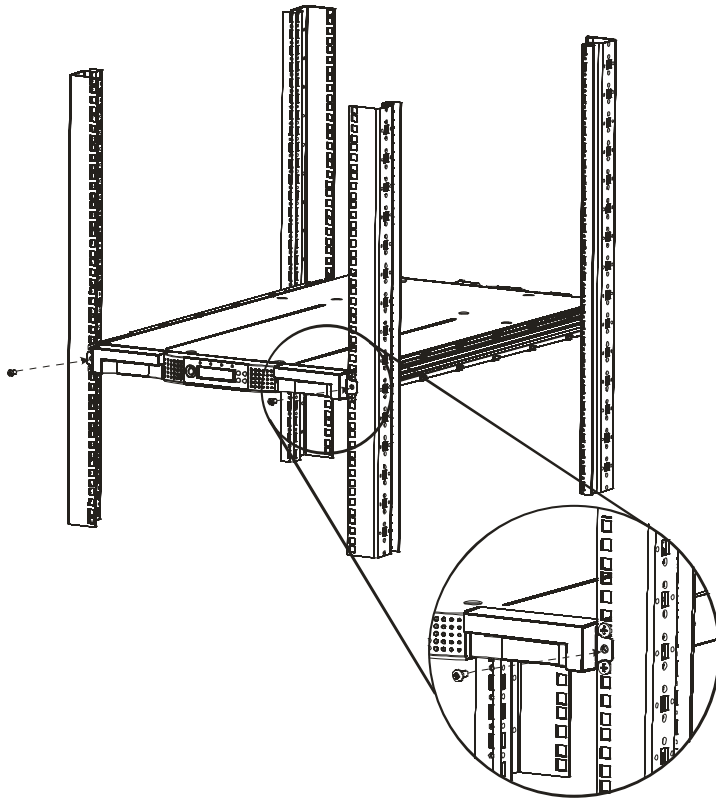

Figure 6 Securing the loader to the rack
4. Secure the loader to the rack (see Figure 6) using a 3# Phillips screwdriver placed through the small holes in the mounting bracket to tighten the M5 screw on each side of the loader.